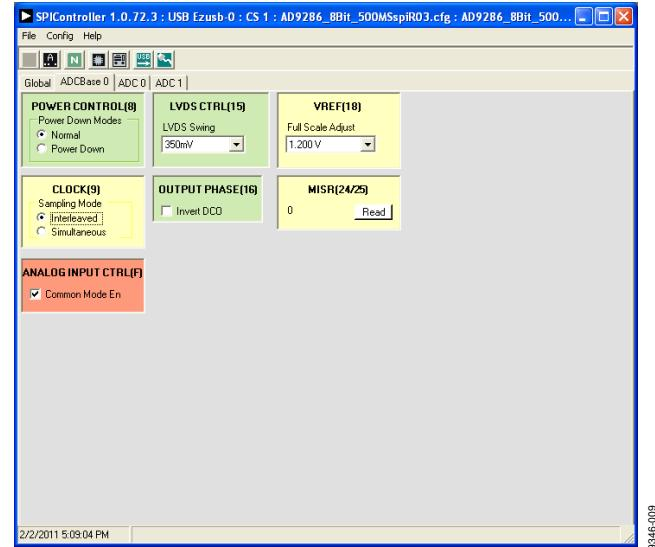
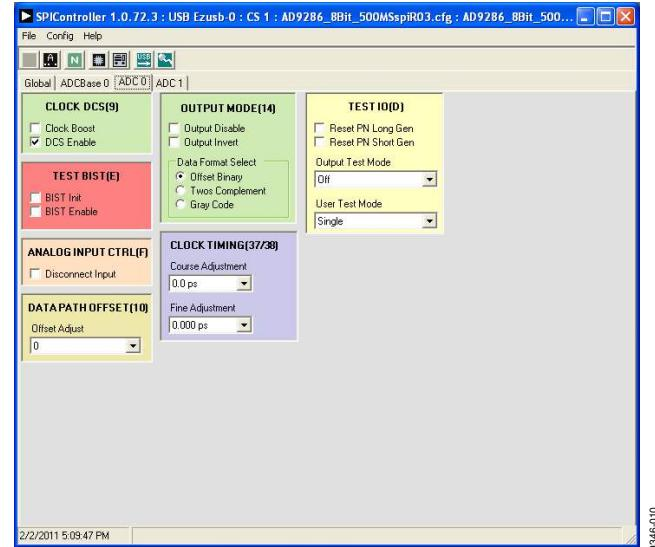

Figure 9. SPIController, ADC Base0
Figure 10. SPIController, ADC 0 Page
3. In the **ADCBase 0** tab of the **SPIController** window, you can access all global register settings (see Figure 9). See the **AD9286** data sheet; the **AN-878 Application Note, High Speed ADC SPI Control Software**; and the **AN-877 Application Note, Interfacing to High Speed ADCs via SPI**, for additional information.
4. Note that other settings can be changed on the **ADCBase 0** page (see Figure 9) and the **ADC 0** and **ADC 1** pages (see Figure 10) to set up the part in the desired mode. The **ADCBase 0** page settings affect the entire part, whereas the settings on the **ADC 0** and **ADC 1** pages affect the selected channel only. See the **AD9286** data sheet; the **AN-878 Application Note, High Speed ADC SPI Control Software**; and the **AN-877 Application Note, Interfacing to High Speed ADCs via SPI**, for additional information on the available settings.